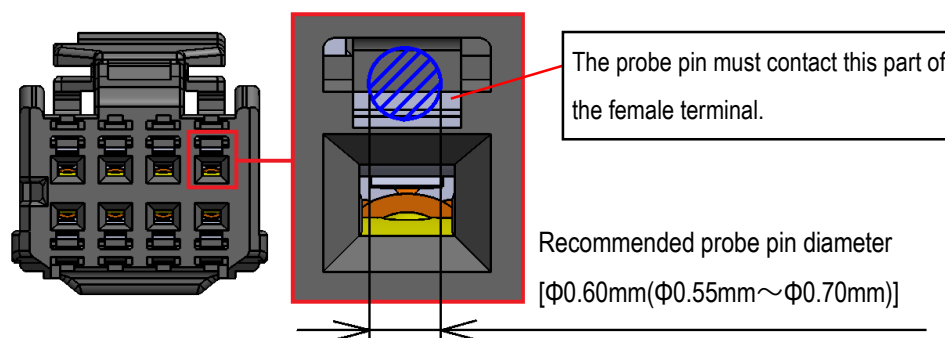

Fig.47 Conductivity test for female terminals (contacts)
② To test electrical conductivity of female connector, place a probe pin at prescribed point (0.5N MAX.) on outside of the female terminal. (See Fig. 47)
③ Do not insert a probe pin into female terminal, as this may damage the terminal spring.